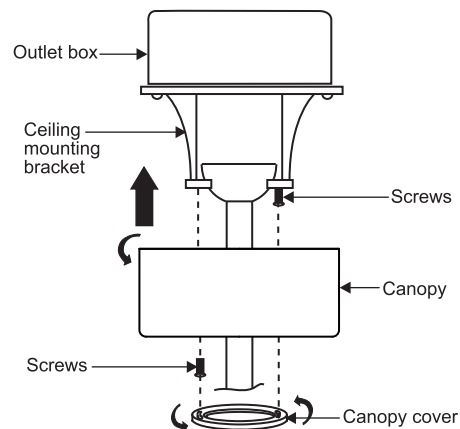

Fig. 15
Step 2. Slide the canopy up to the mounting bracket and place one of the key hole slots over the mounting screw on the mounting bracket. Rotate the canopy until the screw head locks in place at the narrow section of the key hole. See **figure 15**.
NOTE: Adjust the canopy screws as necessary until the canopy and canopy cover are snug. (**Fig. 15**)